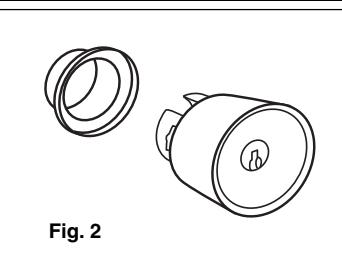

Fig. 2
1. Remove key from lock assembly. Separate knob assembly from knob assembly ring. (Fig. 2)